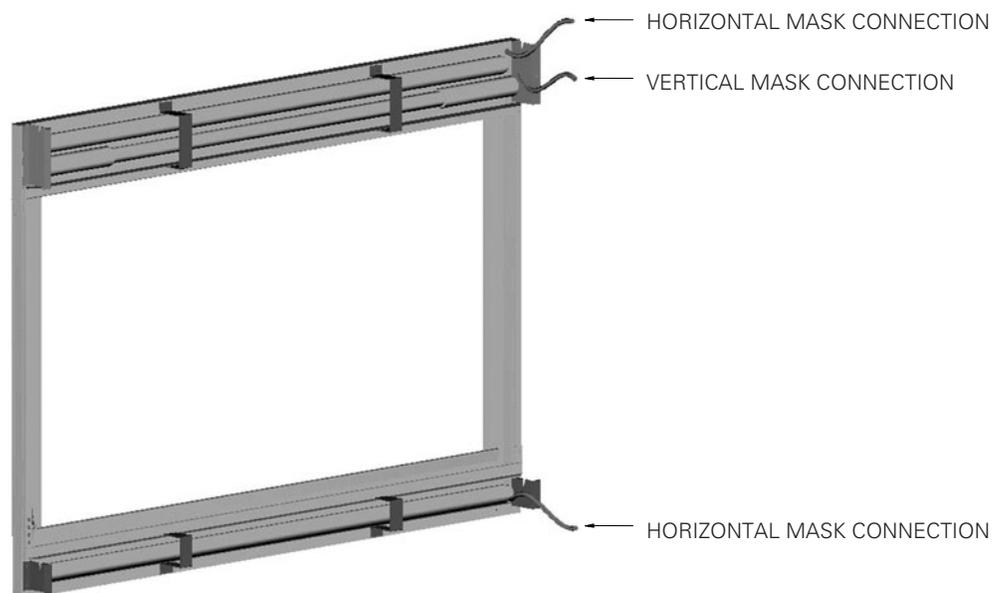

**FIGURE 5**
1. Carefully remove all tape strips securing surfaces around rollers. Slats should move freely. See Figure 5.
3. Connect the eye snap to the eyelet on the bottom masking panel bar. See Figure 5. You will need to pull the cable slightly.